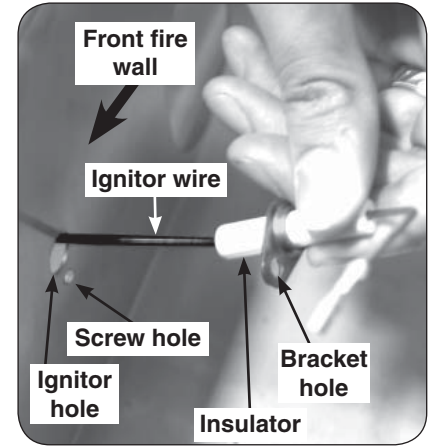
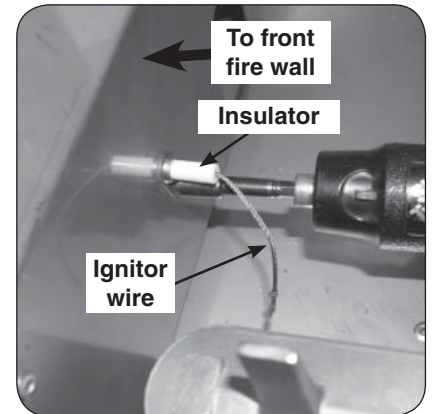

Fig. 3-1 Screw the new wire to the fire wall
Fig. 3-2 Screw the new wire to the fire wall
1. Locate the new ignitor wire with the insulator attached and thread the wire end through the hole in the oven fire wall left by the old ignitor, from the oven side as shown in Fig. 3-1. Continue to thread the wire end through the insulator tube in the manifold fire wall and through the slot in the heat shield, then route it toward the ignitor module on the right. (Hint: wrap around existing wire bundle.)
3. Attach the insulated portion of the ignitor wire to the inside of the oven fire wall by placing the screw (included) through the bracket hole and into the hole in the fire wall (see Fig. 3-1 and Fig. 3-2).